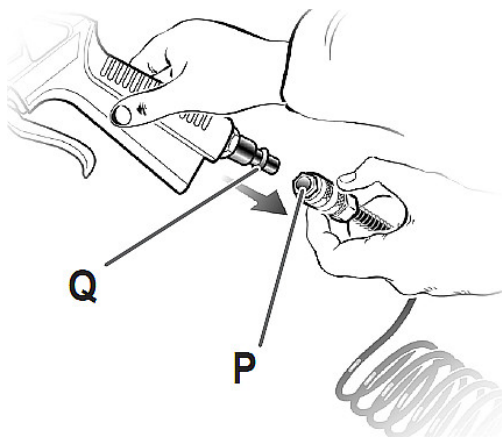

Fig. 5: Connection coupling
Connect the desired accessory to the other end (P) of the spiral hose (Fig. 5): Firmly insert the coupling (Q) of the accessory into (P). In this case, too, it must audibly click.